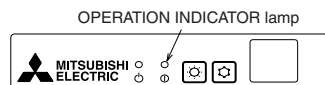

Fig. 9-4
9.3.2. Wireless remote controller (Fig. 9-4)
- ① Turn ON the power.
- ② While pressing both the MODE SELECT button and TOO COOL button on the remote controller at the same time, press the RESET button.
- ③ Release the RESET button.
- ④ Release the other two buttons. After three seconds, all items in the LCD are displayed.
- ⑤ Transmit the signal of remote controller by pressing the OPERATE/STOP (ON/OFF) button on the remote controller.